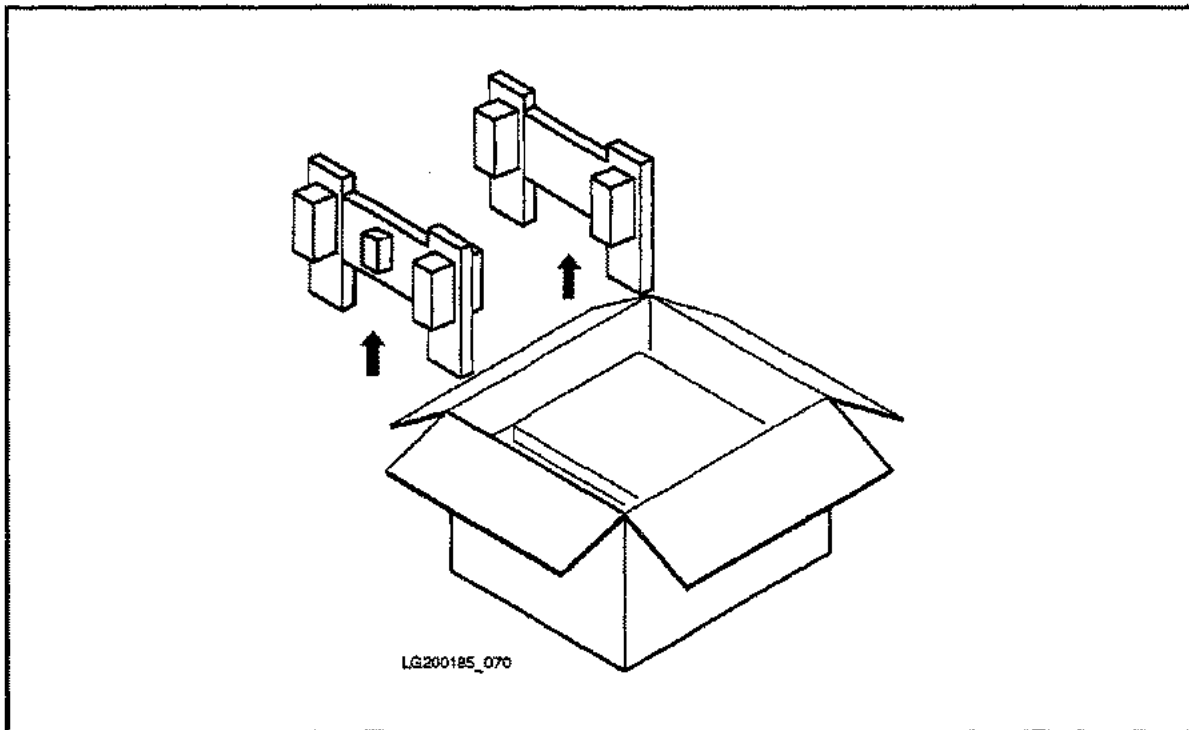

Figure 3-1. Removing Loose Parts
1. Remove all loose parts inside the shipping box, and the inside shock absorbing packing materials. See Figure 3-1.